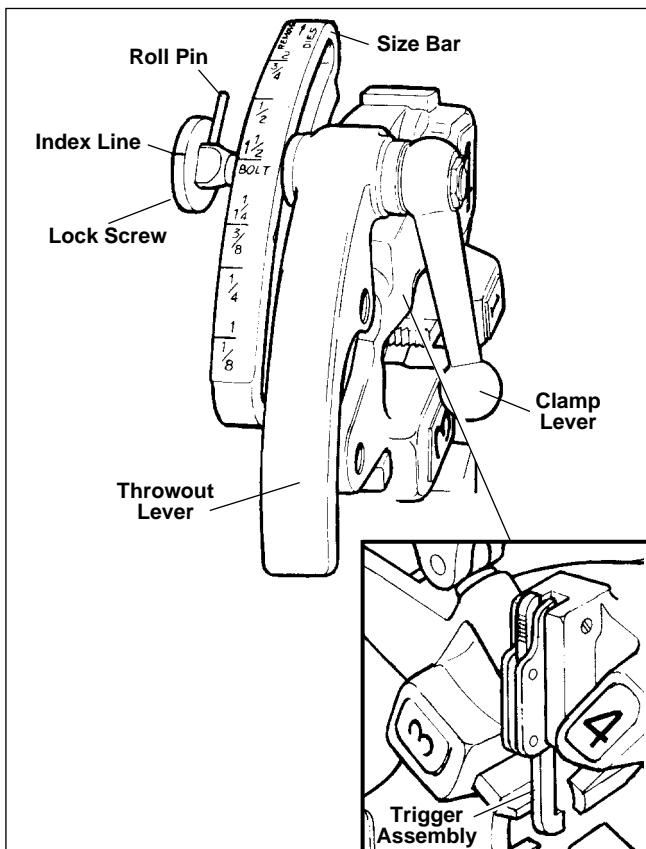

Figure 10 – Universal Self-Opening Die Head
**Self-Opening 815A Die Head (*Figure 10*)** – When die head trigger contacts end of pipe, throwout lever is automatically opened.
The No. 815A Self-Opening Die Head (*Figure 10*) for right-hand threads requires four sets of dies to thread pipe ranging from  $\frac{1}{8}''$  -  $2''$ . One set of dies is required for each of the following pipe size ranges: ( $\frac{1}{8}''$ ), ( $\frac{1}{4}''$  -  $\frac{3}{8}''$ ), ( $\frac{1}{2}''$  -  $\frac{3}{4}''$ ), and ( $1''$  -  $2''$ ). Bolt threading requires a separate set of dies for each bolt size.